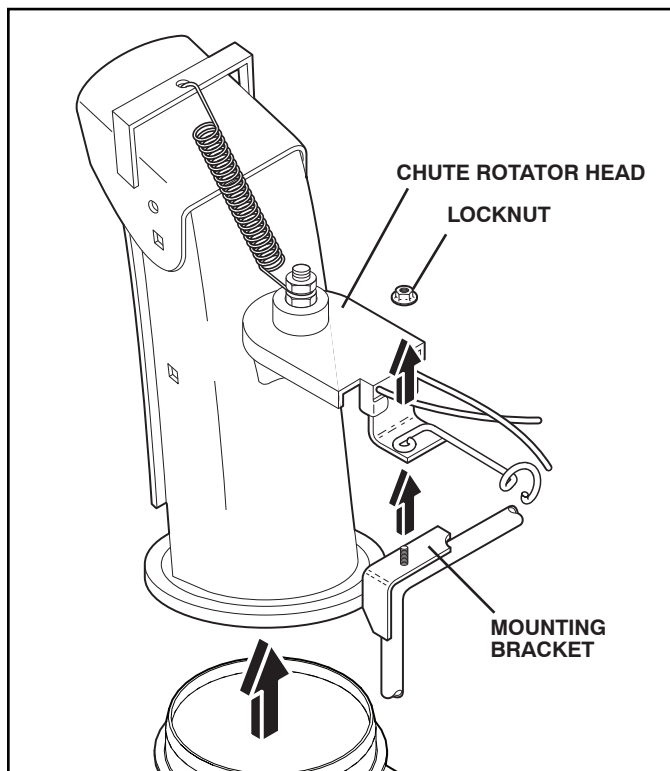

FIG. 18
2. REMOVE DISCHARGE CHUTE - Loosen lock nut securing chute rotator head to mounting bracket to allow chute rotator head to be raised and discharge chute to be removed from snow thrower. See Fig. 18.